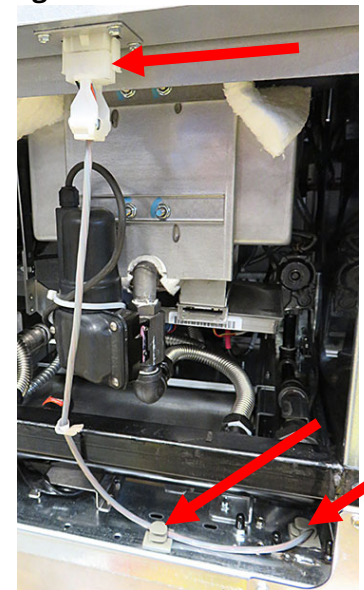

Figure 26
29. Route the cable under the rear manifold and securely attach the to connector on the bottom of the basket lift (see Figure 26).
30. Using supplied clamps secure the cable away from the manifold as shown (see Figure 26).
32. Once fryer has rebooted, wait one (1) additional minute and with the controller OFF, press the HOME button.
37. Press the down arrow button two (2) or three (3) times until BASKET LIFT is visible.